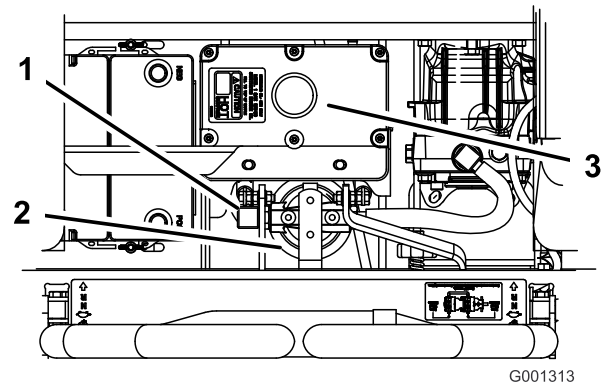

Figure 73
4. Remove the righthand hydraulic line that comes into the adapter (Figure 73).
6. Install the righthand hydraulic line to the adapter (Figure 73).